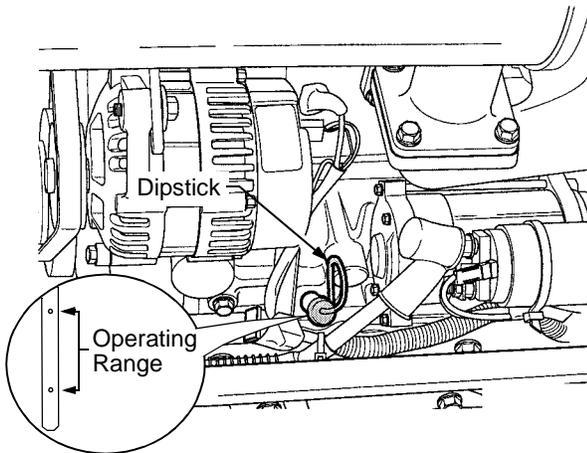
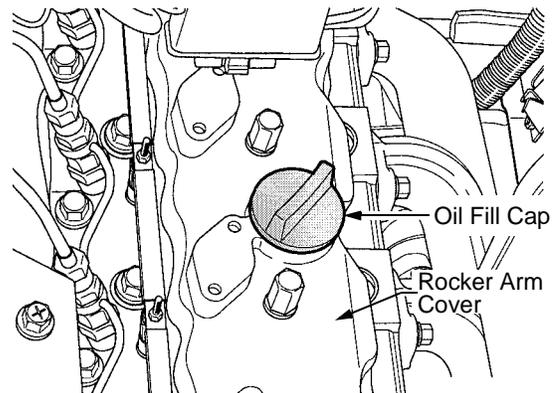

Figure 56
Figure 57
- Clean the area around the dipstick to prevent debris from entering the crankcase; then withdraw the dipstick from the engine and wipe clean. See Figure 56.
- Remove the dipstick and oil fill cap from the engine. Refer to Figure 56 and Figure 57.